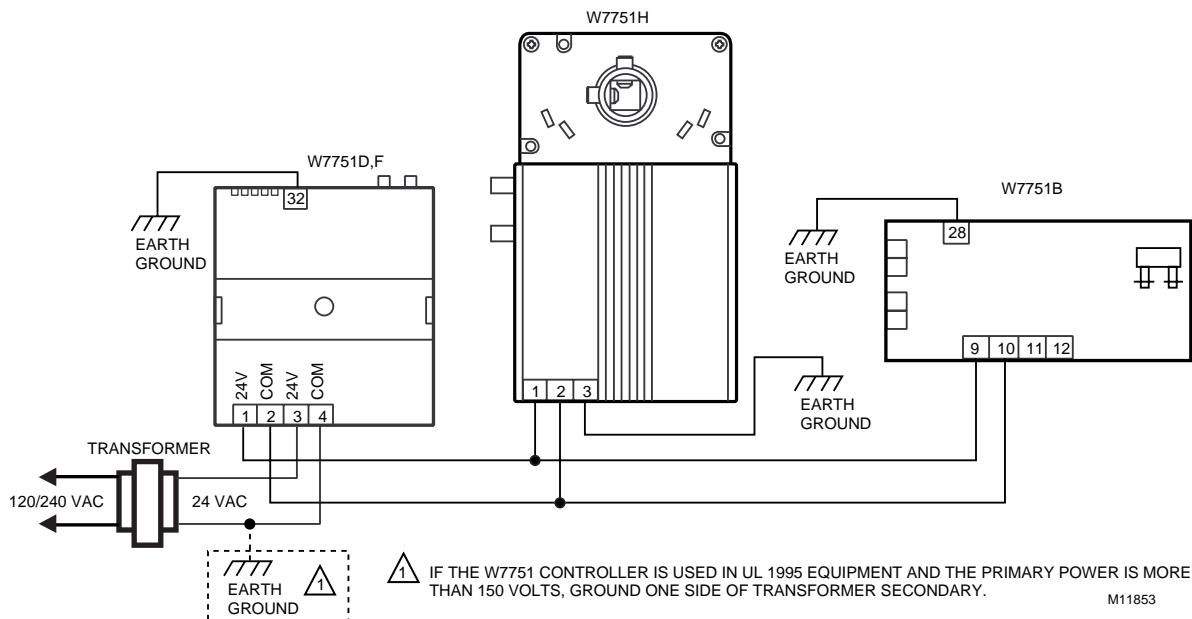

Fig. 56. Power wiring details for two or more Excel 10s per transformer.
For the W7751B, attach earth ground to terminal 10 or 12. For the W7751D,F, attach earth ground to terminal 2 or 4. For the W7751H, attach earth ground to terminal 2. See Fig. 56.
- For multiple controllers operating from a single transformer, the same side of the transformer secondary must be connected to the same input terminal in each controller and the ground terminals (28 on the W7751B, 32 on the W7751D,F and 3 on the W7751H) must be connected to a verified earth ground for each controller in the group. See Fig. 56. (Controller configurations are not necessarily limited to three devices.)